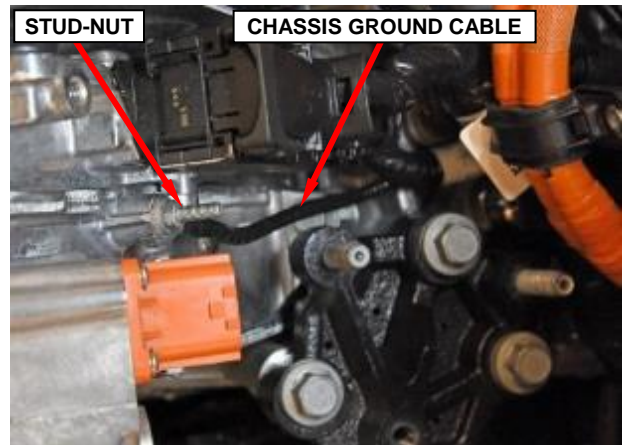

Figure 27 – Chassis Ground Cable
53. Remove and save the stud-nut securing the chassis ground cable to the PIM. Reposition the chassis ground cable from the PIM (Figure 27).
11. Position the chassis ground cable to the PIM. Install the chassis ground cable stud-nut and tighten to 9 N·m (80 In. Lbs.) (Figure 27).